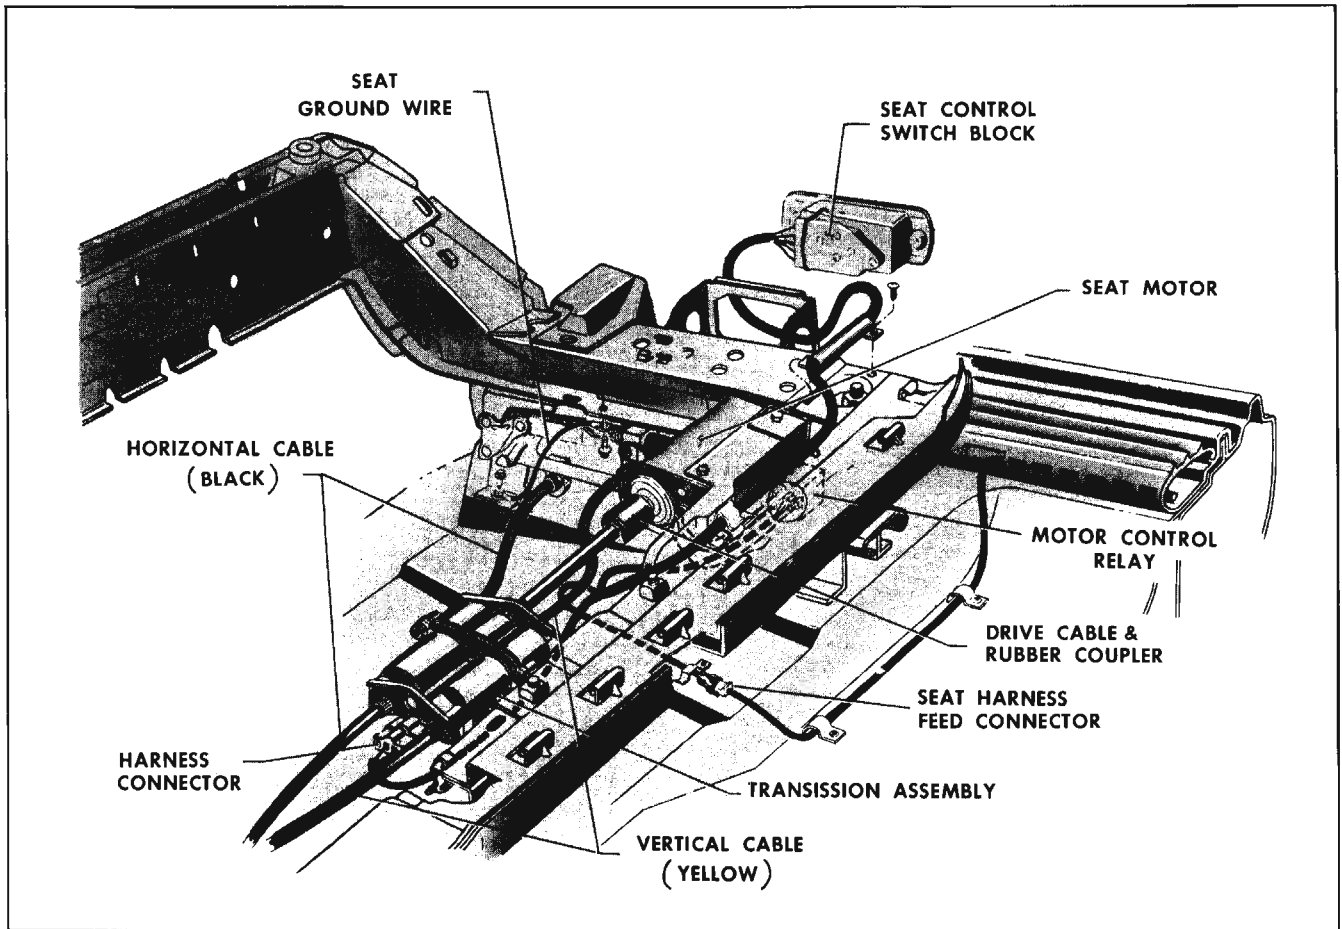

Fig. 16-81 Four-Way Seat Frame (Bench Type)
3. Remove screws securing horizontal and vertical cable end plate on side of transmission from which cables are being removed and remove cables from seat assembly. (Fig. 16-81)
2. Disconnect wire harness connector from transmission. (Fig. 16-81)